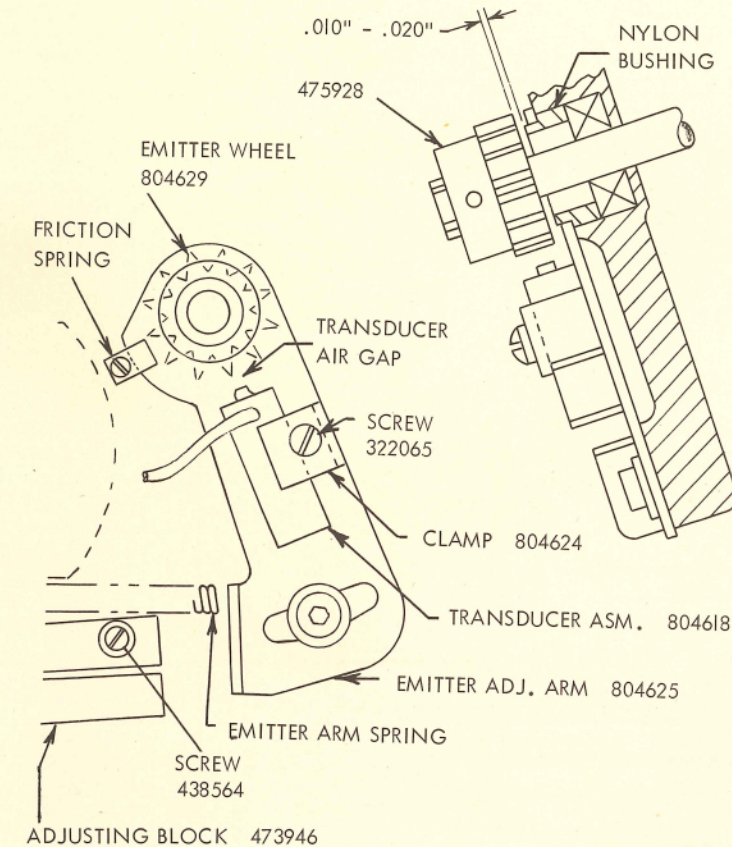

FIGURE 1.
- a. The emitter wheel should be located .010" to .020" from the nylon bushing as shown in figure 1.
- a. Loosen transducer clamp screw and adjust transducer for .008" clearance to the Emitter wheel. Refer to figure 1.
NOTE: Timing of the Magnetic Emitter is altered by adjusting the Emitter adjusting arm (P/N 804625) in the same manner as for the brush type Emitter. (See figure 1). Timing should be adjusted to obtain the least time to settle tractor shaft movement, compromise between triple space, six lines per inch, and double space, eight lines per inch.
1. Use care when filling the chain reservoir or when oiling the ribbon-drive motor. Oil can drip because of a pressure buildup in the motor (see figure 1, 1403 Reference Manual)